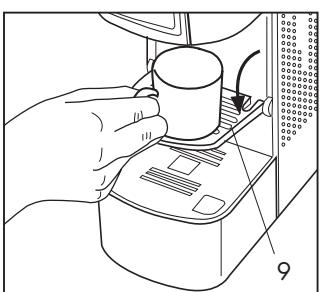

Fig. 6
open the support (9) to prepare espresso coffee correctly and to use small cups (**Fig. 6**).